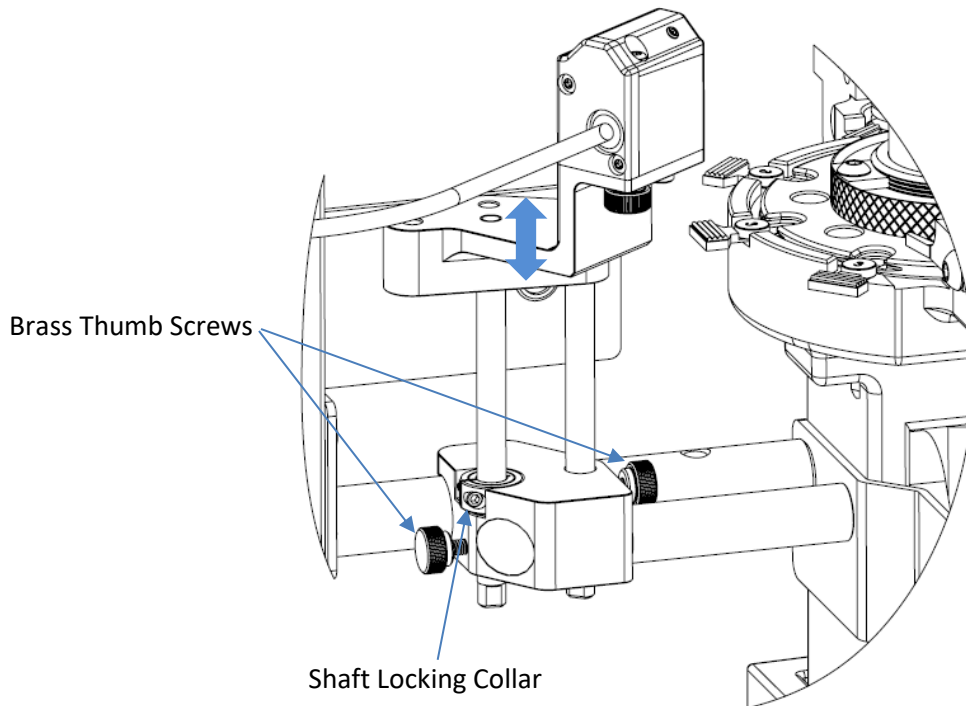
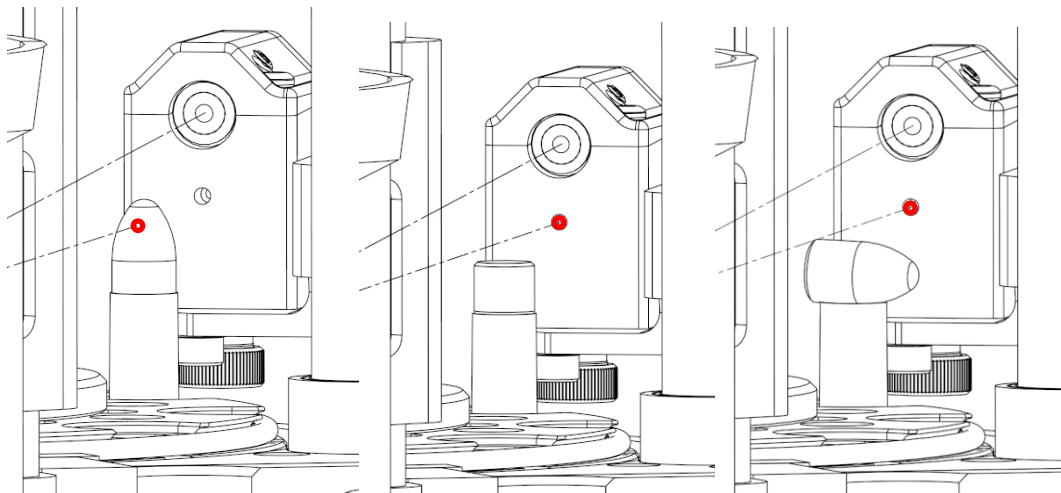

Figure 9: Direct beam over the tip of the bullet (left) the reflected beam will hit the back side of the bullet (Right)
Figure 10: Properly orientated Bullet- Beam interrupted (Left) Improper orientated Bullet – Beam not interrupted (Right)
10. Loosen the 2X brass thumb screws and shaft locking collar and gently position the upper mount, shown in Figure 9, so the laser beam goes OVER the tip of the bullet and hits the mirror. The reflected beam should return and hit the tip of the bullet, breaking the beam path, as shown in Figure 10. When the vertical height is adjusted properly a shadow will be cast on the sensor preventing the sensor to see the laser beam. When the bullet is not present, upside or sideways the beam will pass over the bullet and contact the sensor triggering the machine to stop.
11. Once the proper height has been achieved ensure the 2X brass set screws are tightened and tighten the shaft locking collar, see Figure 9. The shaft locking collar is used to lock in the required height adjustment. If you need to remove the BulletSense® assembly for press maintenance or for any reason you can choose to remove the upper mount only. When re-installing, the vertical position will be maintained.